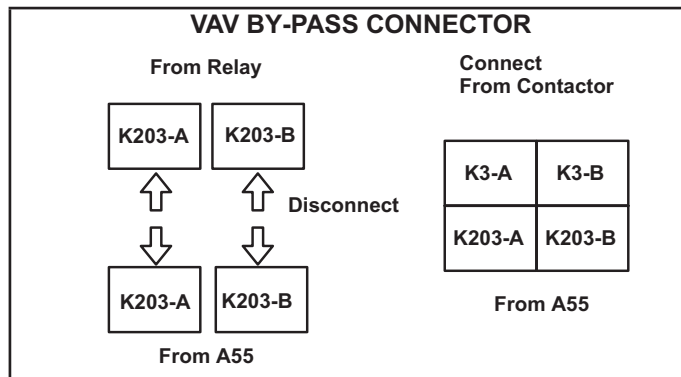

FIGURE 34
- 2- Locate K3, K203, J248 and J249 connectors near the VFD. See FIGURE 34.